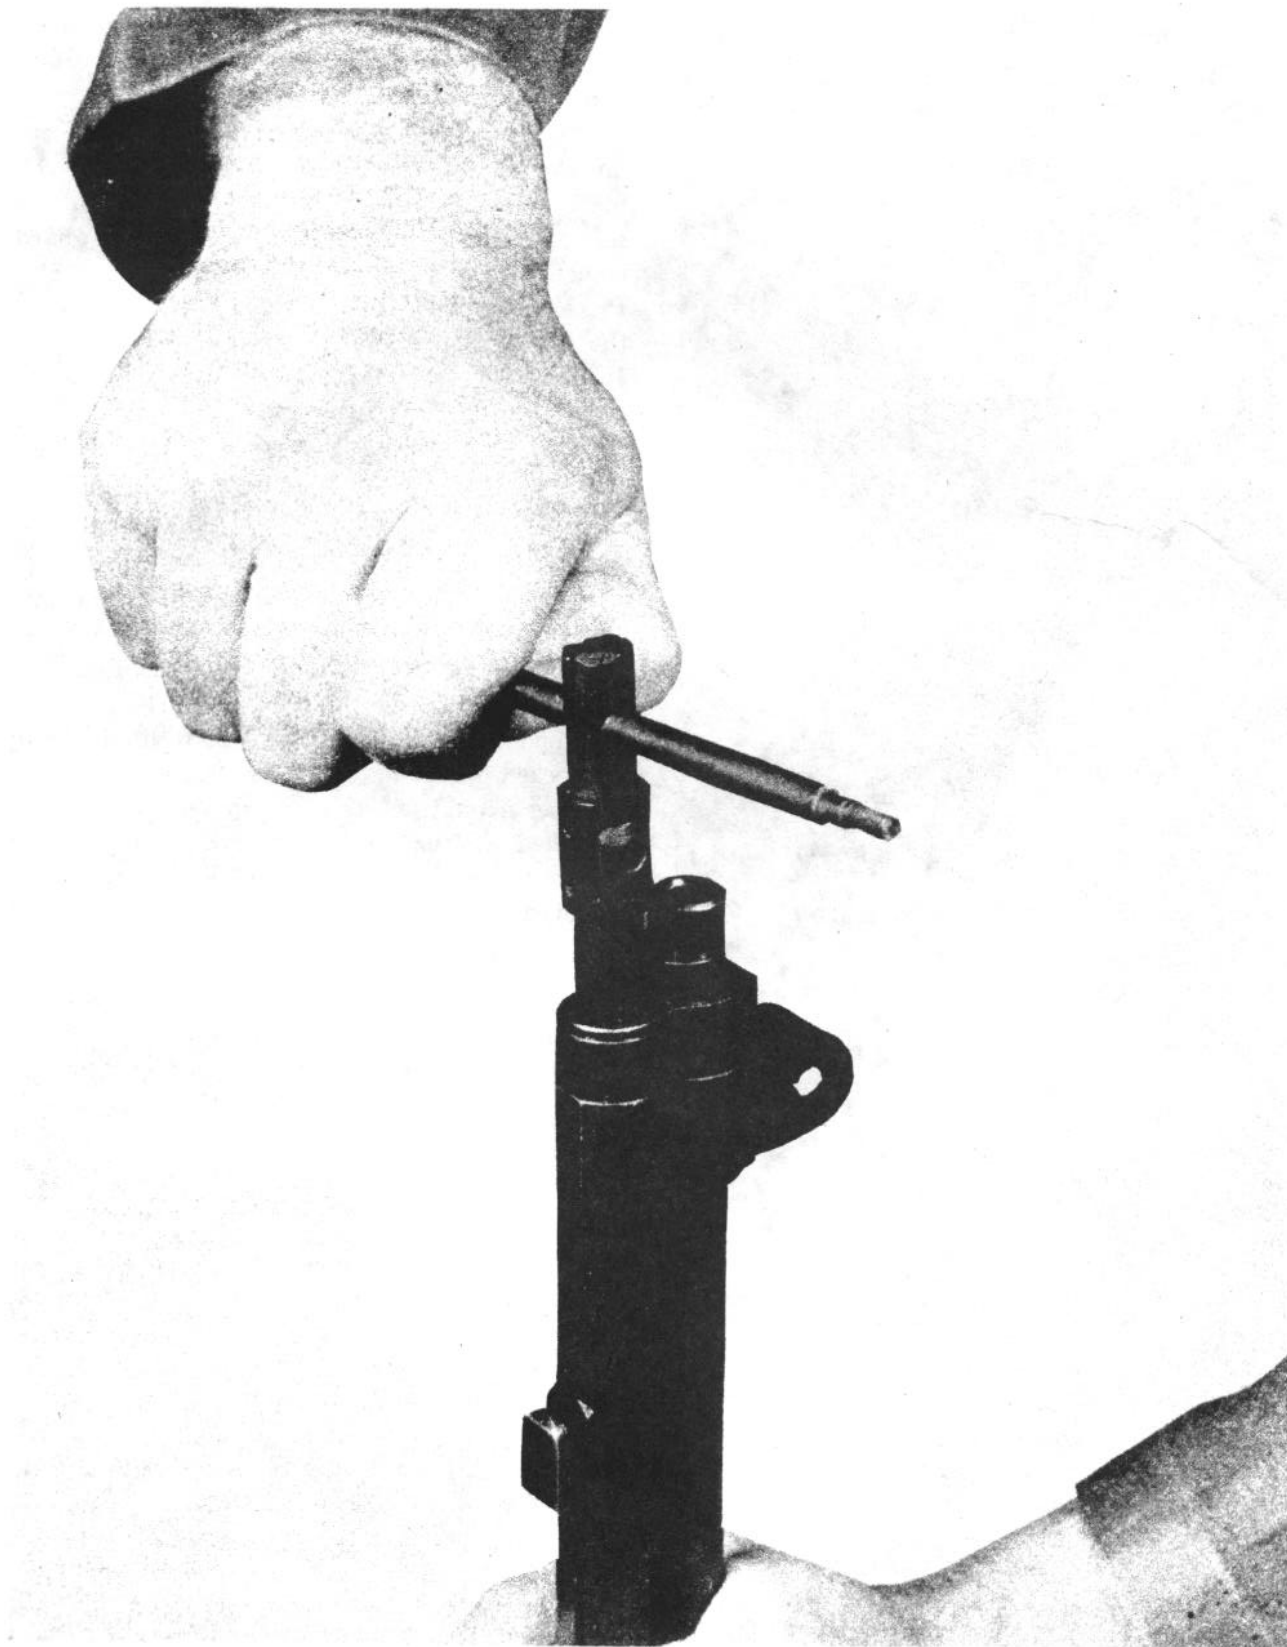

Figure 8. Removing the gas cylinder lock screw.
g. Using the screwdriver blade of the M10 cleaning rod handle as shown in figure 8, unscrew and remove the gas cylinder lock screw.